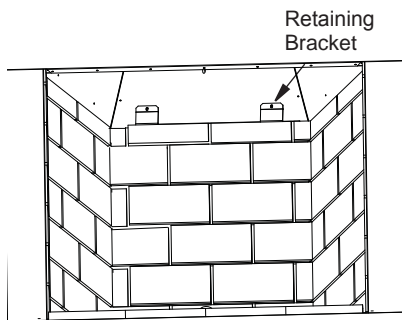

Figure 24 - Installing Rear Wall
- Install the rear firebrick wall last. Place the wall face side down on the hearth with the bottom of the wall toward the rear of the firebox and the top toward the front of the fireplace. Tilt the wall up toward the back of the firebox. Secure with 2 rear retaining brackets provided (Figure 24).